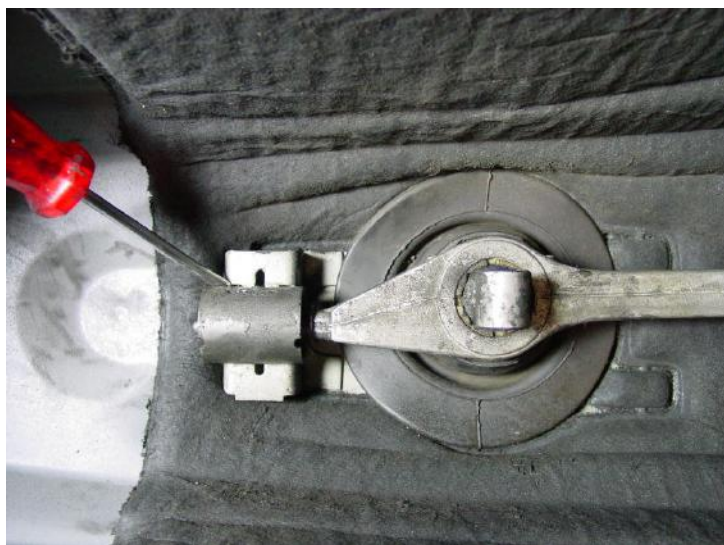

Figure 1 - Un-clipping the rear shift carrier
2. The shifter bush is held to the underside of the vehicle by a bracket with two tabs that clip into matching slots on the outer casing of the bush. To remove the bush you will need to unclip it from these tabs by using a small screwdriver or pick in the slots in the bracket to pry the bush downwards as shown in Fig 1.